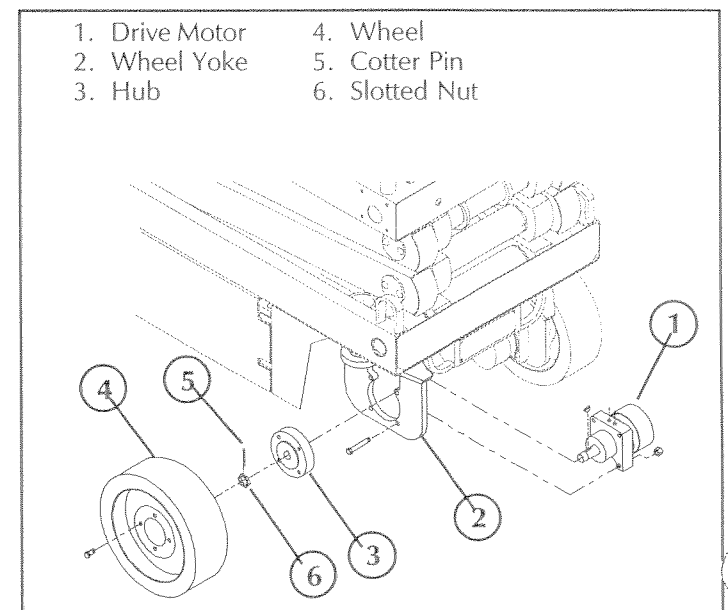

Figure 3-13: Drive Motor Installation
3.9 Hydraulic Drive Motors and Hubs (Figure 3-13)